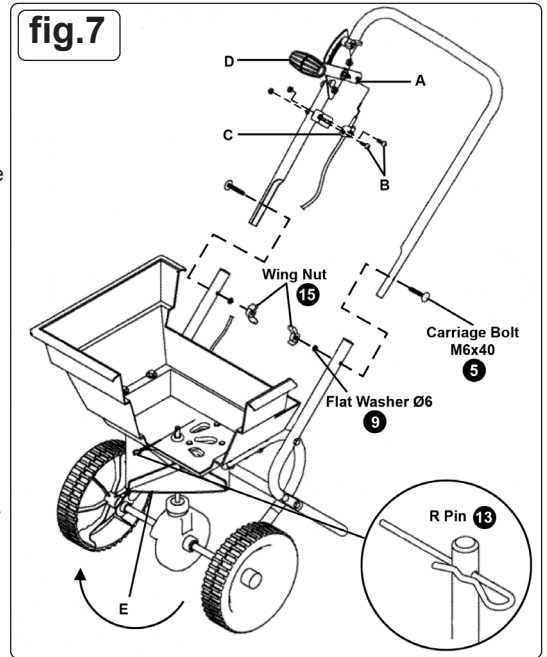

fig.8 FULL RATE SETTINGS
- 5.3. See figs.8 & 9 for suggested walking patterns depending on the level of coverage you require.